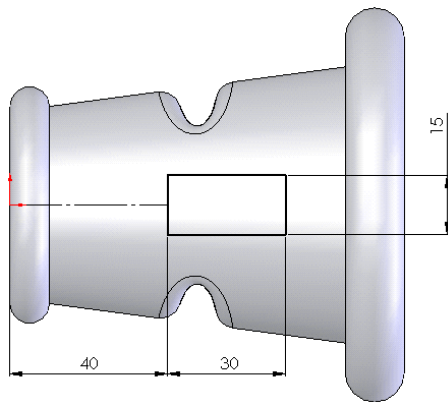

Figure 15-106 First sketch for loft surface
- Create a lofted surface by lofting the section created on the newly created plane and the curve projected on the base surface, refer to Figures 15-106 through 15-110.
3. Create the sketch as shown in Figure 15-106 and exit the sketching environment.